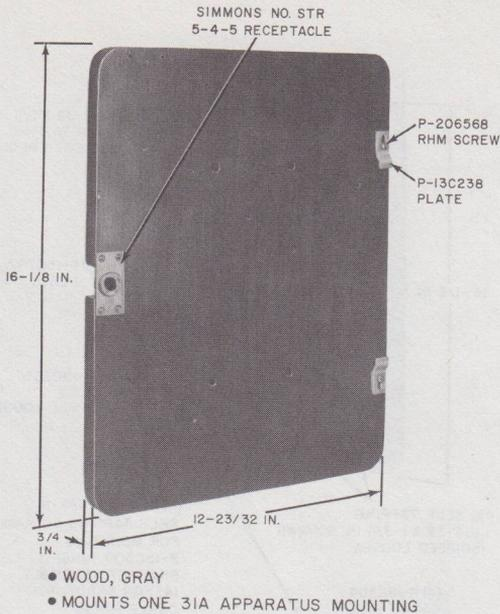

Fig. 19—173B Backboard
3.02 The 173B backboard (Fig. 19), finished in light olive gray, is designed to mount one 31A apparatus mounting.